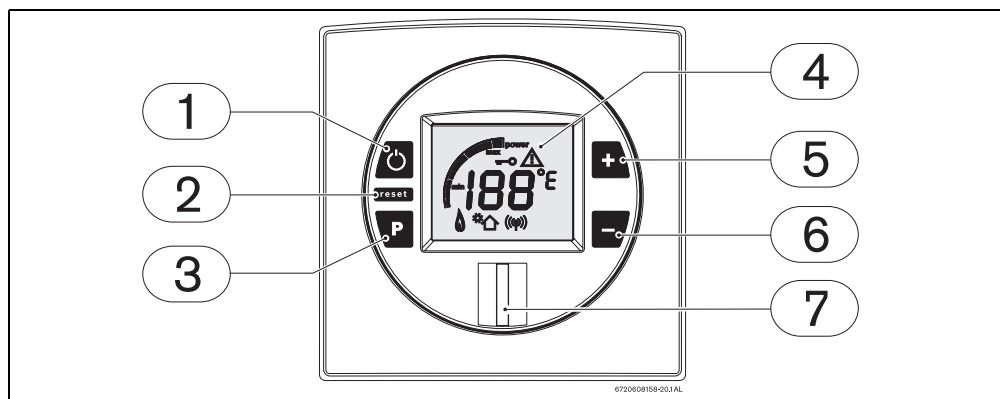

Fig. 4
Place the principle switch (Fig. 4 , pos. 1) in the operating position (chapter 4.3), so that the appliance is quickly ready for use.
Turn OFF the appliance (Fig. 4 , pos.1).
- Press and hold the programming key (Fig. 4 , pos.3), press ON/OFF button (Fig. 4 , pos. 1) to connect the appliance. Release programming key only when LCD displays "188". The LCD displays the signal "P2".
- ▶ Press ON/OFF button (Fig. 4 , pos. 1) to disconnect the appliance .